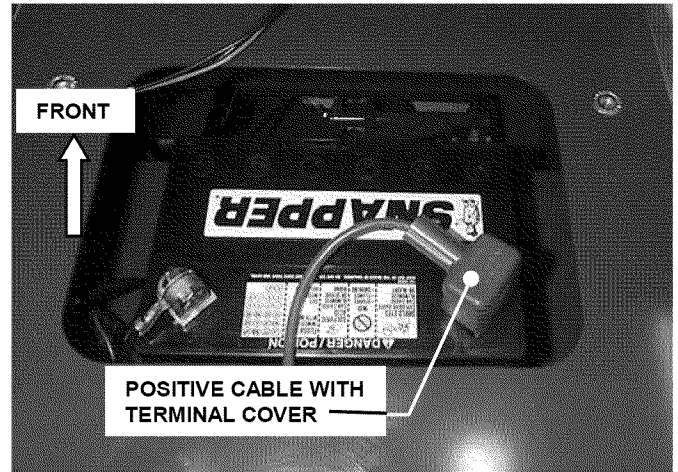

FIGURE 4.14
2. Observe and note cable positions on battery. See Figure 4.14.
Cables must be connected to battery terminals in the proper position as show in Figure 4.14. DO NOT attempt to charge battery while installed on the Machine. DO NOT use "BOOST" chargers on the battery.
IMPORTANT: Your Hydro Rear Engine Rider is equipped with a specially designed battery that allows the machine to be placed on the rear bumper for up to 2 hours with no acid leakage. Failure to use a genuine Snapper battery or installing the Snapper battery incorrectly will result in damage to your machine. The Snapper battery must be installed with the battery caps towards the front of the machine and the terminals towards the rear. See Figure 4.14.